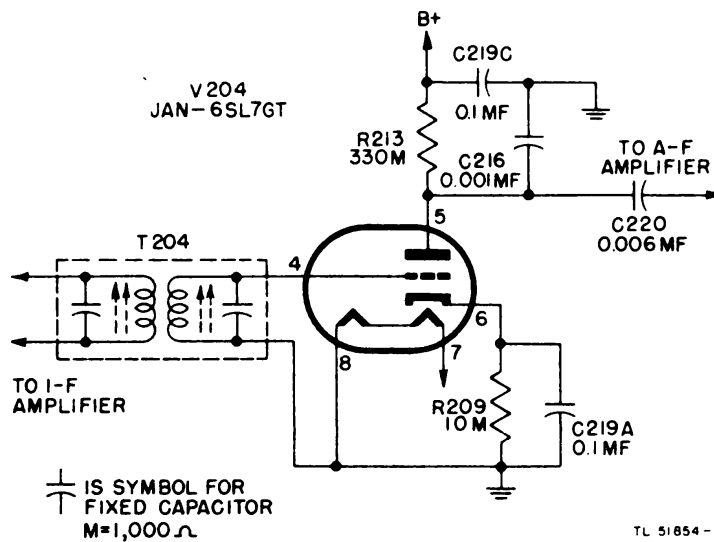

Figure 27. Detector V204, simplified diagram.
62. DETECTOR (fig. 27).
b. The detector section of V204 (fig. 27) is self-biased nearly to cut-off by the voltage drop developed across 10,000-ohm resistor R209 in the cathode circuit. Thus the i-f output of transformer T204 applied to the grid of the plate detector is rectified, producing an average current fluctuation in the detector plate load proportional to the audio modulation. The rectified i-f component in the plate circuit of the detector is bypassed to ground through capacitor C216 which also functions to improve the a-f (audio-frequency) response of the receiver. The demodulated signal voltage is applied through coupling capacitor C220 to the following audio-amplifier stage. Capacitor C219A bypasses the cathode resistor for the i-f and a-f signal voltages.